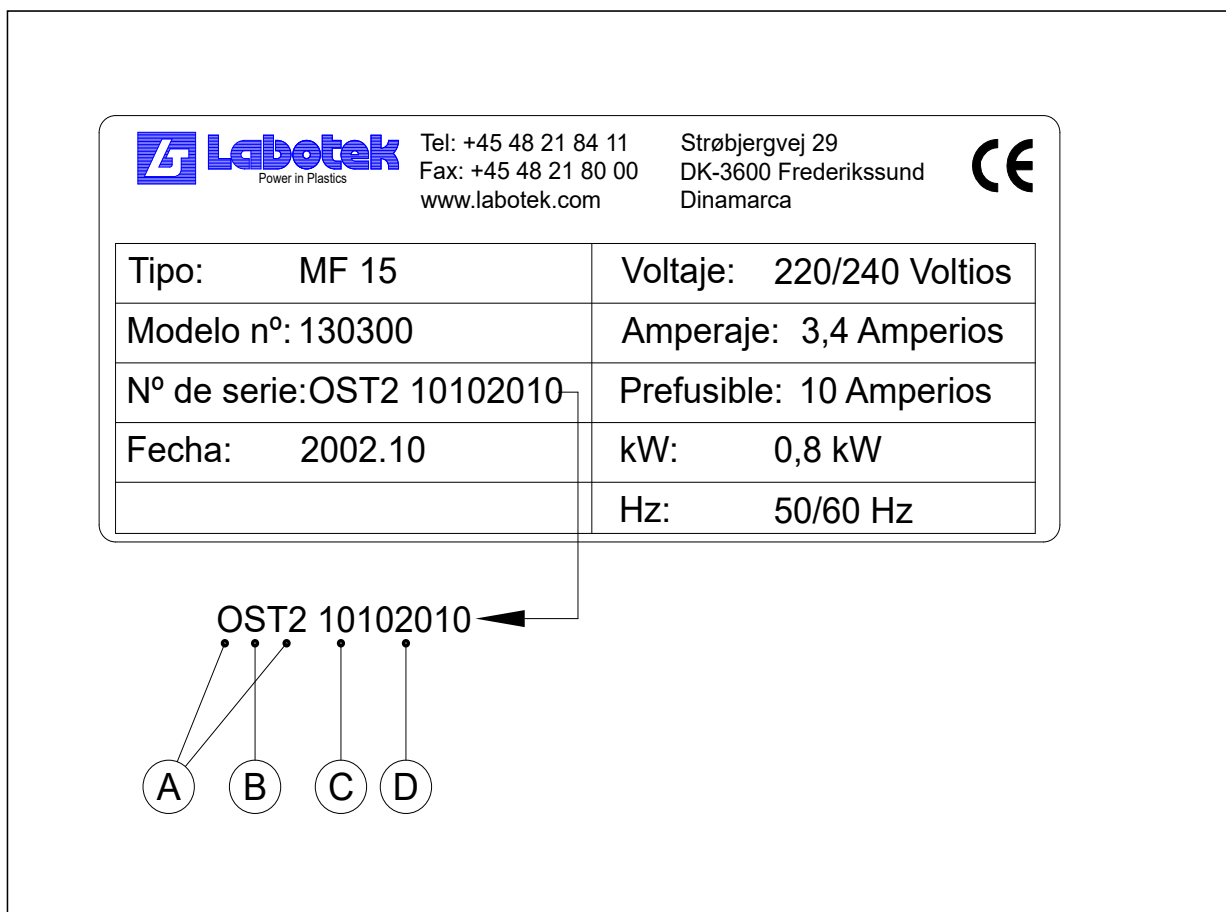

Figure: 3.1 Type plate - R2296_R01
The identification number-which is the serial no.- consists of a code (A), (B), type number (C) and Serial number (D). See *Figure: 3.1 Type plate*